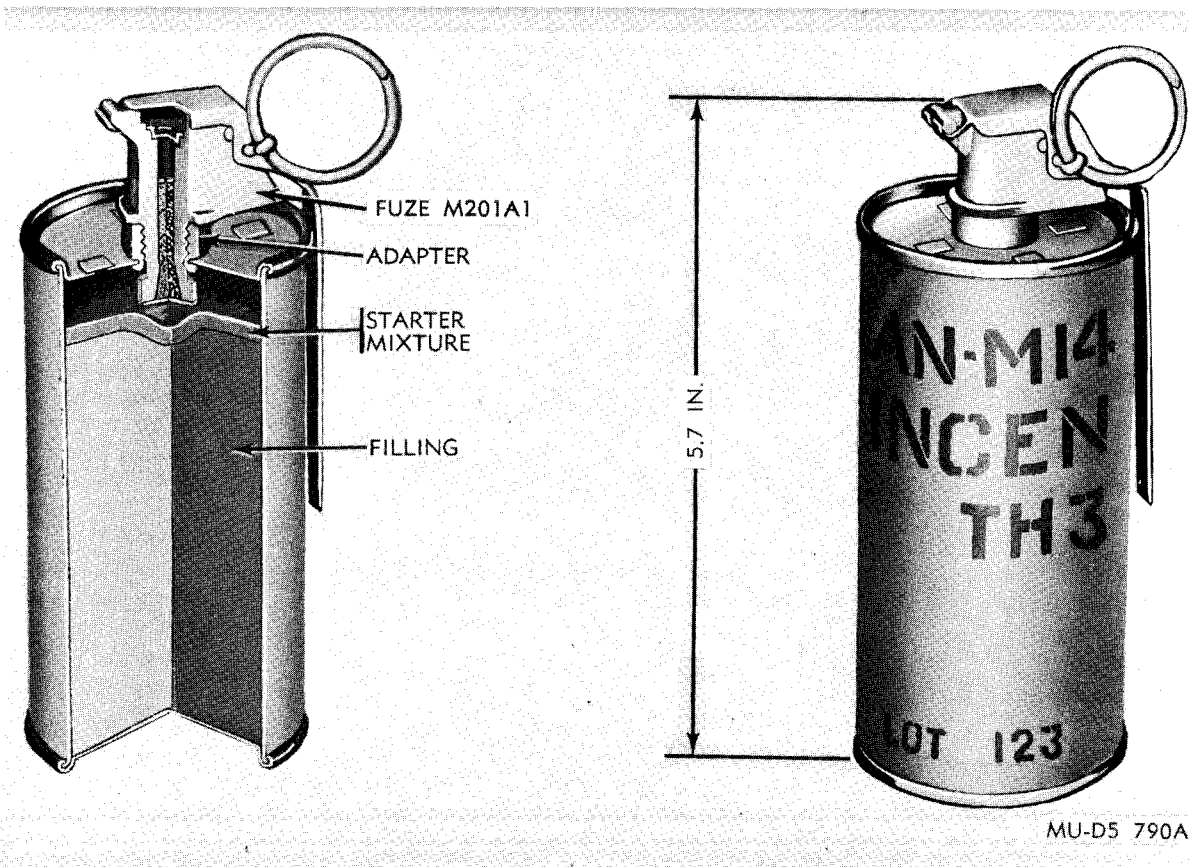

Figure 2-18. TH3 incendiary hand grenade AN-M14.
a. *General.* TH3 Incendiary Hand Grenade AN-M14 (fig. 2-18) is used primarily to provide a source for intense heat to destroy equipment. It generates heat to 4000° F. The grenade filler will burn from 30 to 45 seconds.